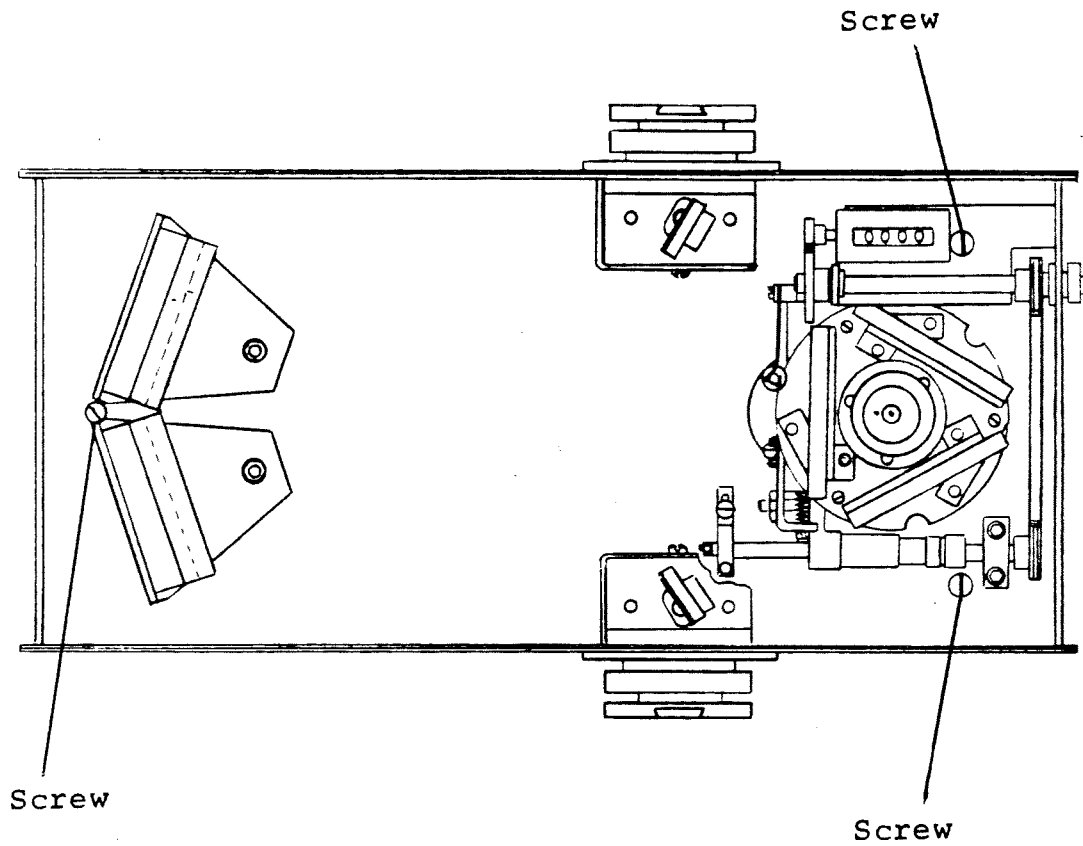

Figure 7. Location of screws attaching to the base support.
2. On the inside bottom of the instrument are three screws with washers which hold the instrument to the base support, (See Figure 7). Unscrew these screws, lift the instrument off the base support, and set it aside